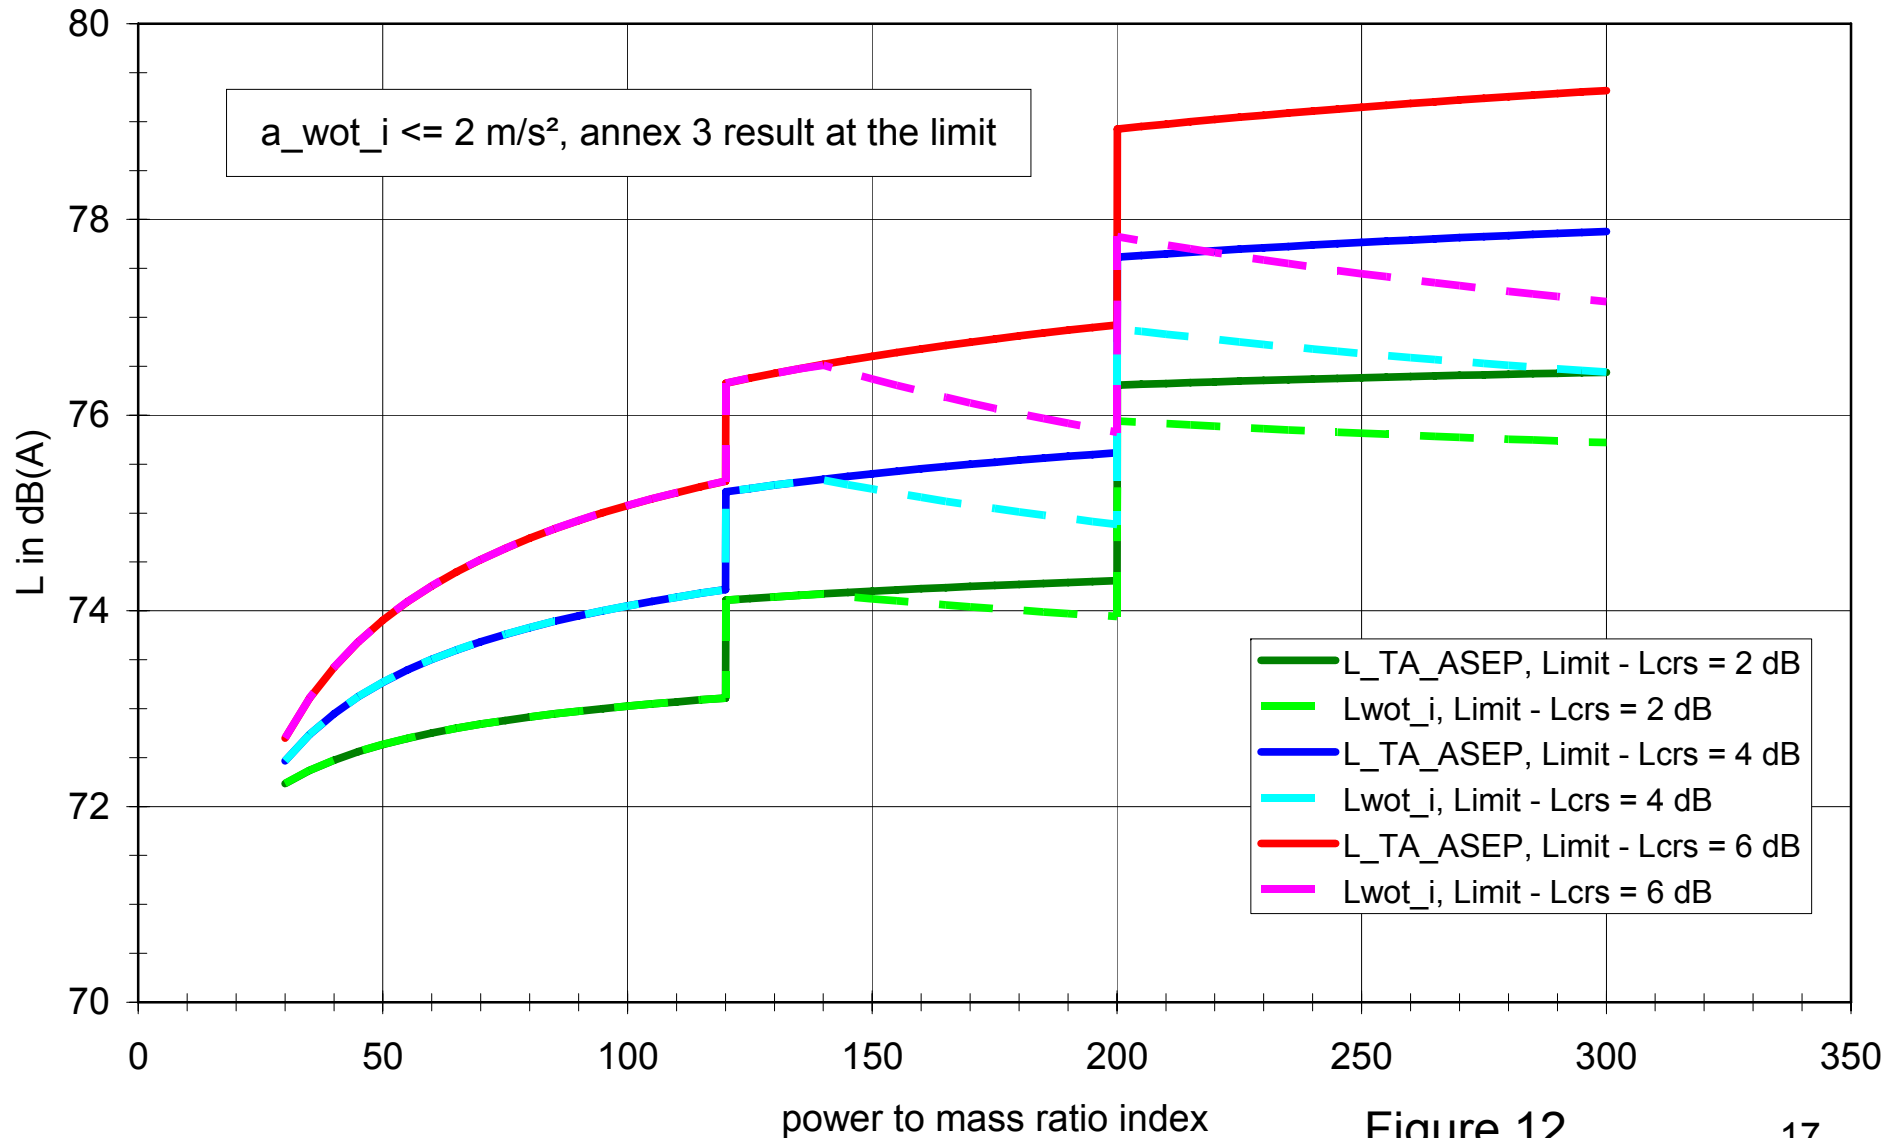

Figure 12
- The influence on  $L_{wot\_i}$  is shown in figure 12.